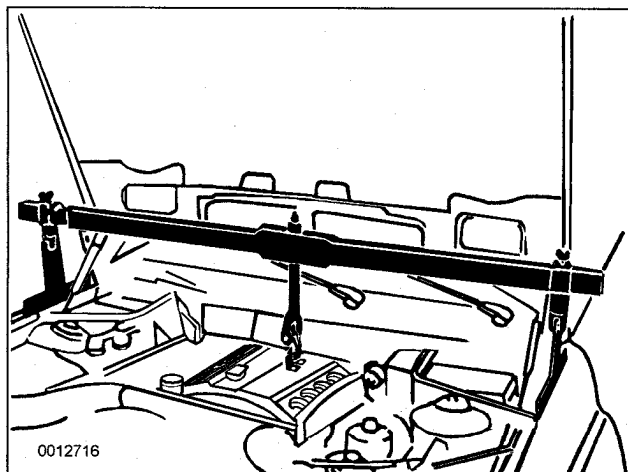

**Fig. 10.** Engine support equipment used to support engine from above before removing transmission.
2. Install engine support across engine bay. Raise engine so that weight of engine is supported. See Fig. 10.